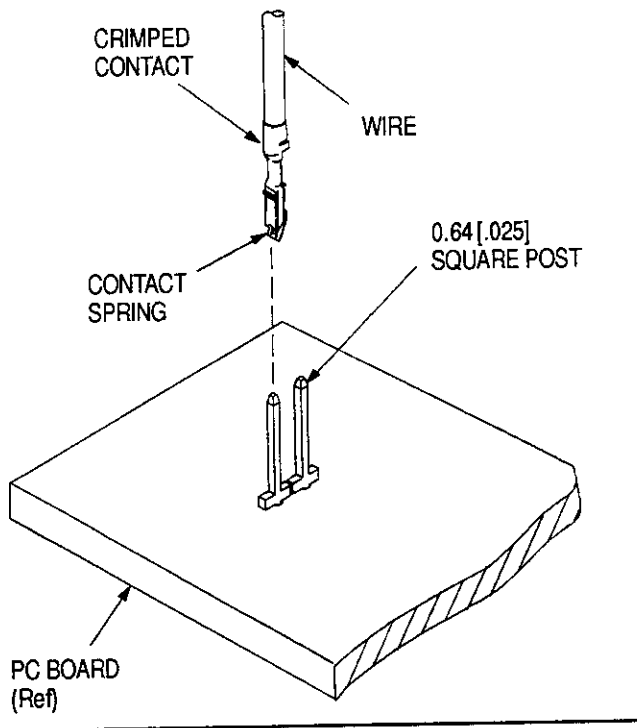

Figure 2
3.1. Installing Contacts onto Posts (Figure 2)